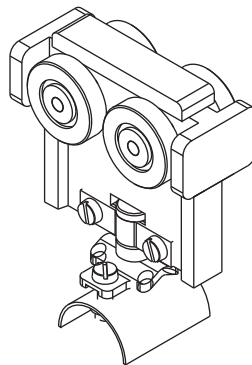

Fig. 15 Festoon Trolley
- c) If In-track festoon system selected install the festoon trolleys (fig 15).